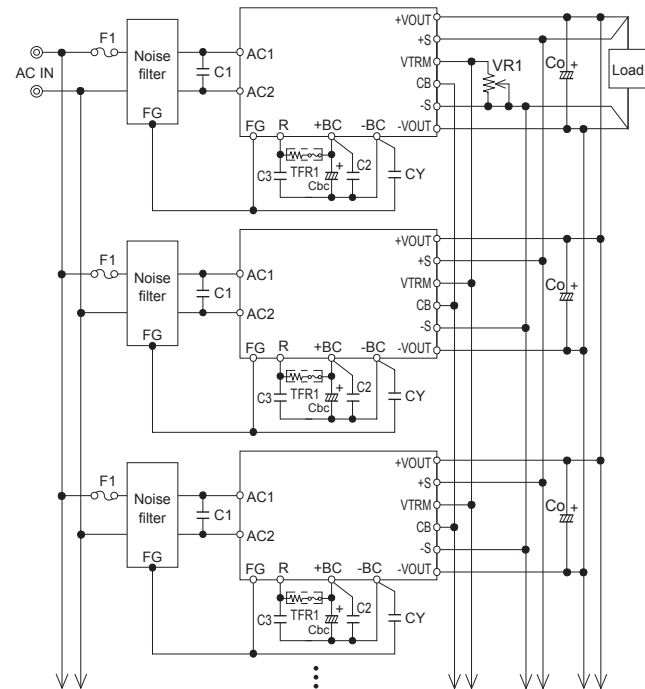

Fig.4.2 Examples of parallel operation (TUNS1200F)
■ Parallel operation is available by connecting the units as shown in Fig. 4.2. With this wiring, it is possible to adjust all output in module by single potentiometer. When output voltage adjustment is not in use, VTRM wiring, VR1 are not necessary.